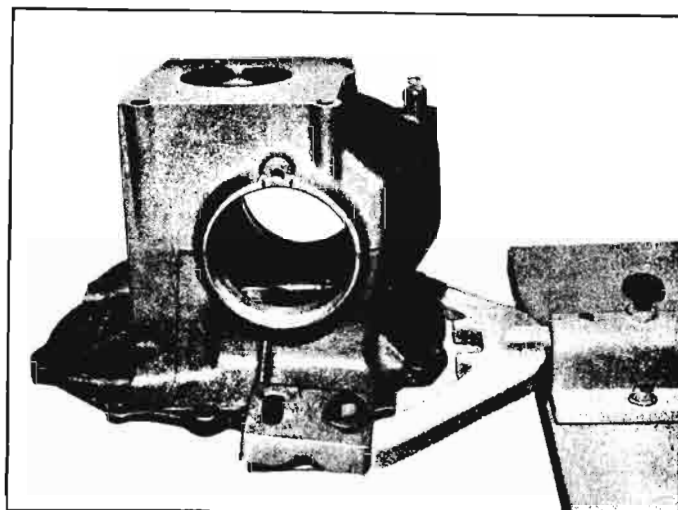

Fig. 6C-46—Differential Carrier Installed in J-3289 Holding Fixture
3. While differential is loose in the carrier, insert pinion into carrier through the cover hole (fig. 6C-47). Then engage pinion with ring gear and carefully position pinion rear bearing in race. On automatic transmission models, care must be exercised not to damage the seal at this location when the pinion is installed.